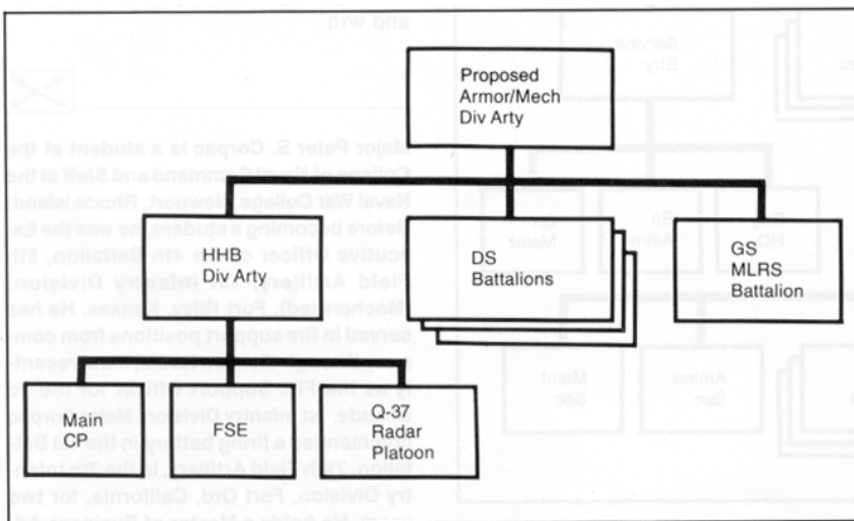

Figure 2: Proposed Heavy Div Arty Organization
To redesign the heavy Div Arty, I propose three major changes (see Figure 2). First, it's absolutely critical we eliminate the separate multiple launch rocket system (MLRS) battery and establish a general support (GS) MLRS battalion. The primary mission of the battalion would be to provide more extensive fires for the deep battle and counterfire fight. We must equip the battalion with launchers that can fire MLRS rockets or the Army tactical missile system (Army TACMS), depending on the situation, and, as developed, the entire suite of MLRS family of munitions (MFOM).